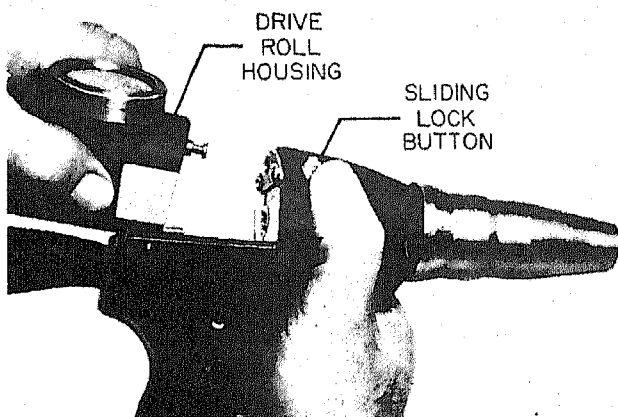

Figure 4. Removing Drive Roll Housing
- Press down lock button (Fig. 4) on right side of Gun and slide off drive roll housing.
- a. Press down lock button (Fig. 4) on right side of Gun. Slide off drive roll housing.
a. Press down lock button (Fig. 4) on right side of Gun. Slide off drive roll housing.